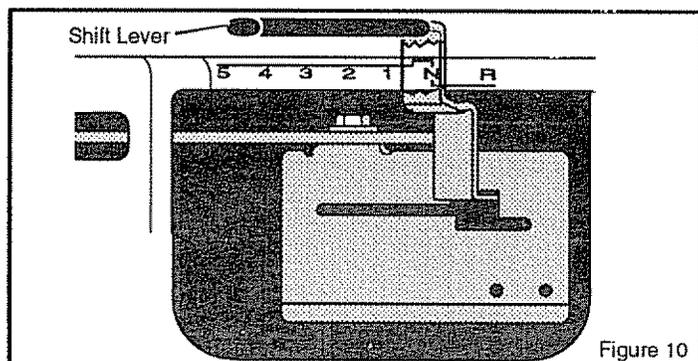

Figure 10
3. To move the **shift lever** to neutral (N) from a forward gear, pull the **shift lever** back and then move to the right (Figure 10).
4. To move the **shift lever** to a forward gear from neutral (N), pull the **shift lever** to the left and then push the **shift lever** forward.